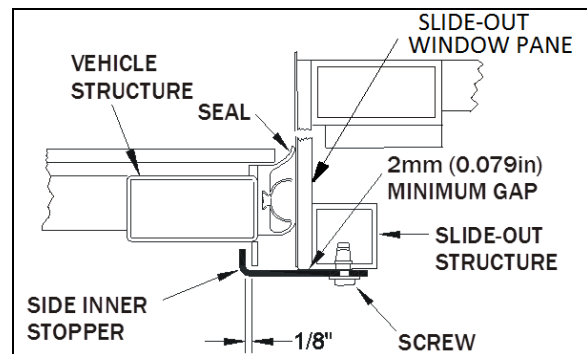

FIGURE 5: SIDE INNER STOPPER ADJUSTMENT
1. Adjust the side inner stoppers at 1/8" from the vehicle side structure keys, and tighten the screws. Make sure there is a minimum gap of 2mm (0.079") between the side inner stopper and the slide-out window pane side (Figure 5). Use shim as required.